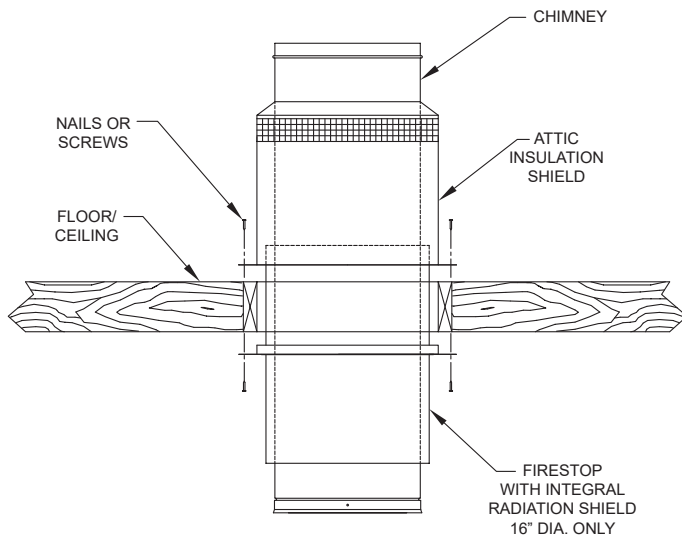

FIG. 8
- Secure the Attic Insulation Shield to the top of the framed opening using nails or screws. See **FIG. 8**.